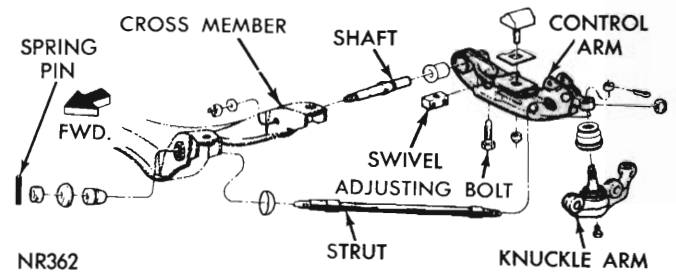

Fig. 7 - Lower control arm assembly
(9) Remove the strut nut and bushing retainer (Fig. 7) from the forward end of the "K" member.
(10) Remove the cotter pin, nut and washer from the lower control arm shaft (Fig. 7).
(11) Tap the end of the lower control arm shaft with a "soft end" hammer to aid in removal of the shaft from the "K" member.